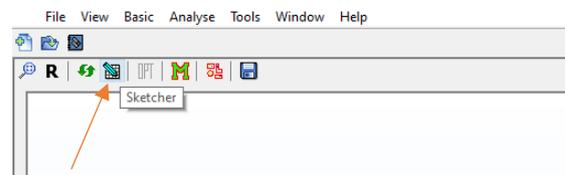

Figure 59
1. First enter the Standard workspace sketcher  (Figure 59).